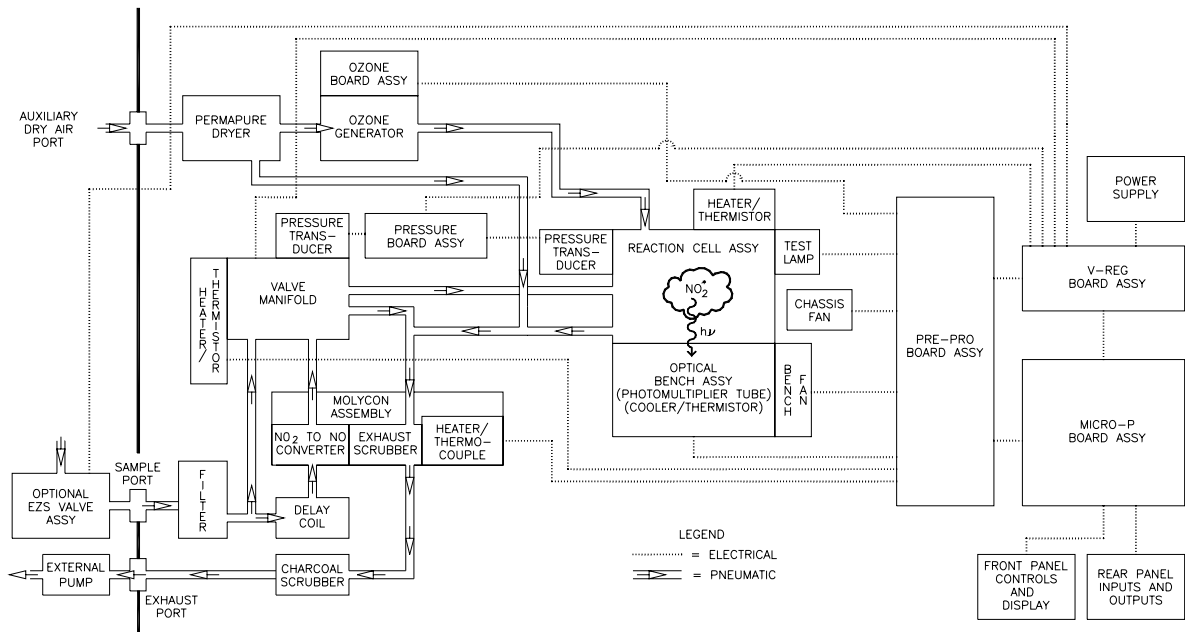
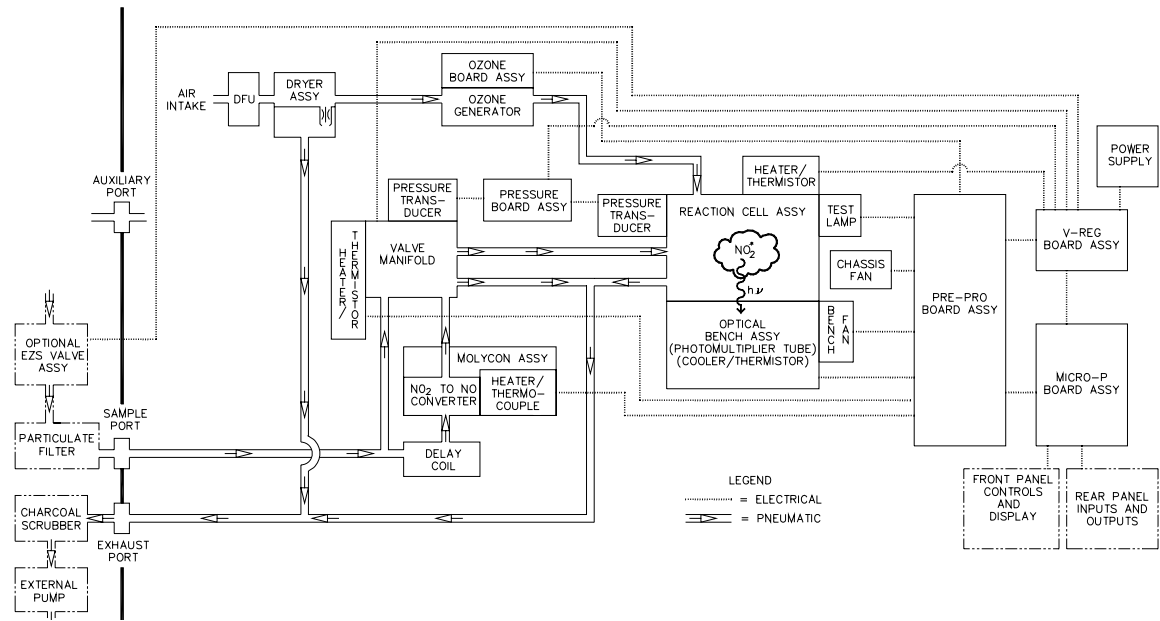
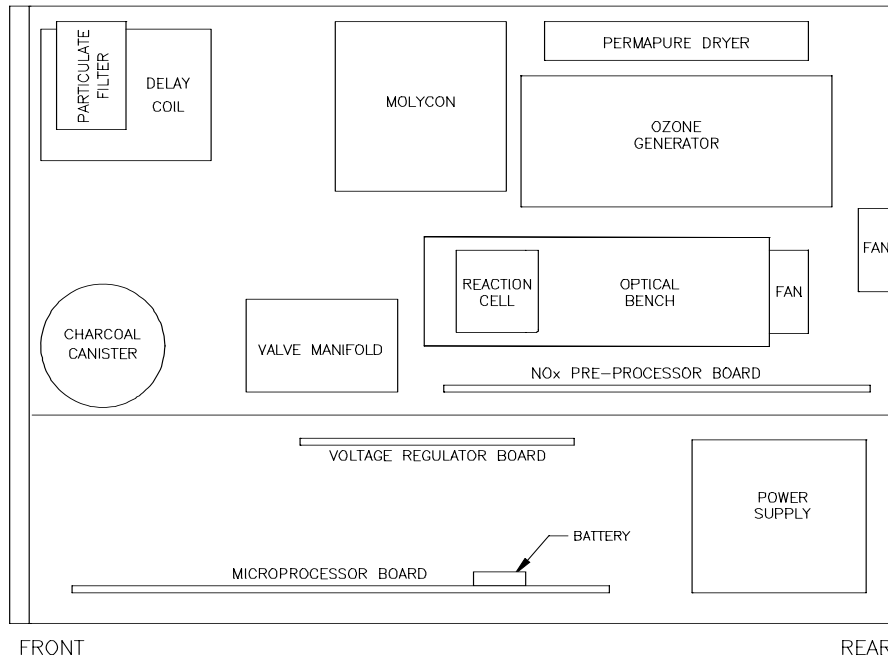
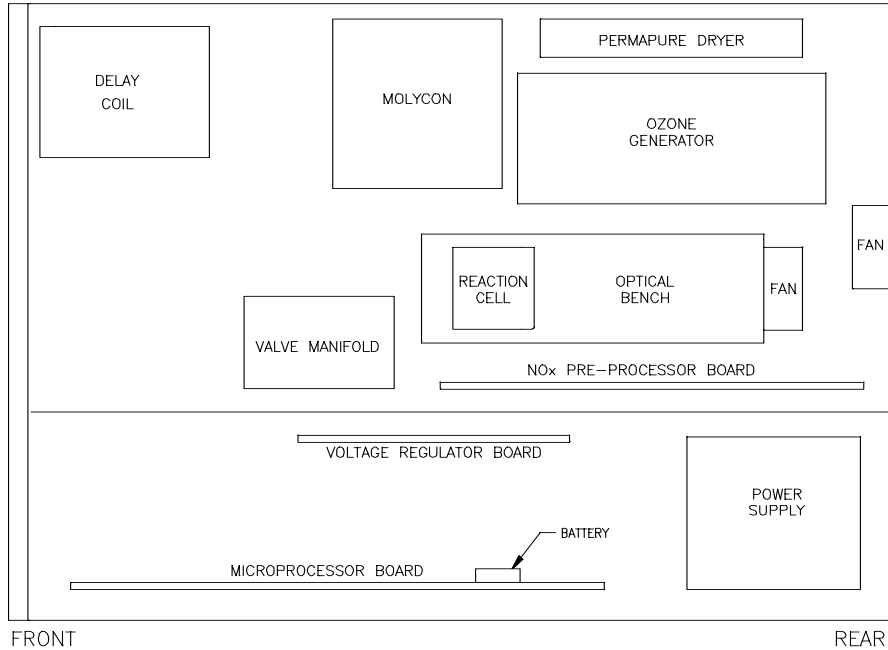

Figure 5. System Block Diagram (A Series)
Figure 6. System Block Diagram (B Series)
Figure 7. Major Components (A Series)
Figure 8. Major Components (B Series)
- The Ozone Generator contains dangerous levels of voltage. Make sure the power is disconnected when opening the generator unit. If unfamiliar with the ozone generator refer to figure 8 in the service manual.
The instrument is designed in a modular format consisting of a power/microprocessor module and a sensor module. The power/microprocessor module contains the power supply, voltage regulators, and the system microprocessor. The sensor module contains all components necessary to measure the pollutant gas. The slight variations between the A and B series analyzers are illustrated using system block diagrams (Figure 5 & Figure 6) and major component layout diagrams (Figure 7 & Figure 8).